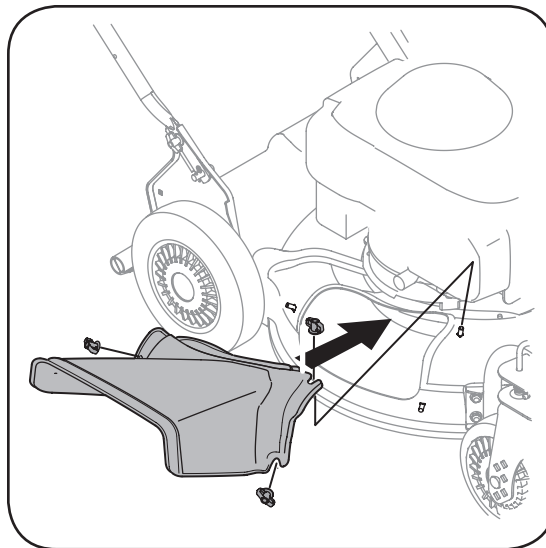

Figure 3-6: Remove mulching cover or grass bag before installing side discharge chute.
- b. Attach side discharge chute to unit and secure with the three wing nuts. See Figure 3-6.